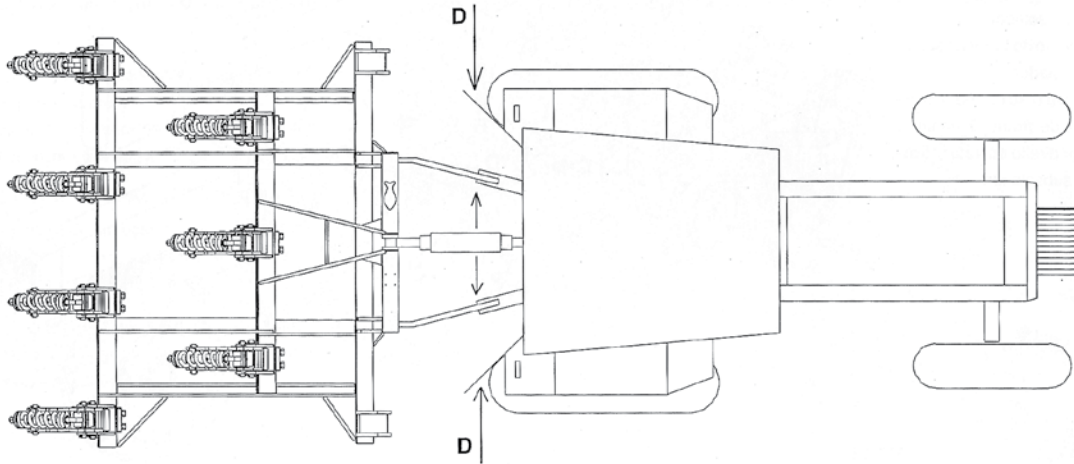

Figure 13
- 10 - The centralize the implement behind the tractor measure the distance between the bottom arms of the point hitch and the wheel. They must be adjusted to be the same. Both arms should be also at the same level between each other, figure 13.